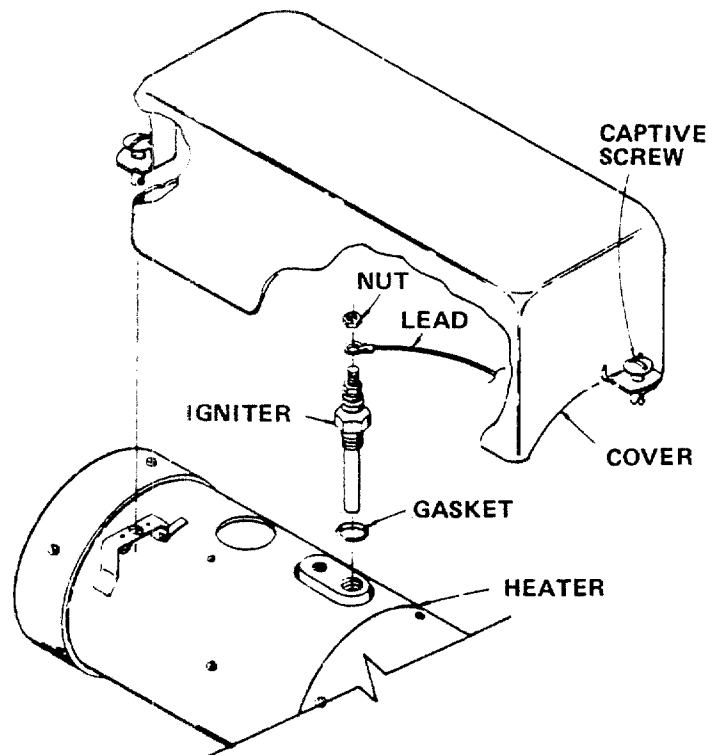

Figure 5-4. Fuel Burning Winterization Kit, Igniter Replacement
5-13. IGNITER ASSEMBLY. The following paragraphs provide inspection and replacement procedures for the heater igniter assembly (see figure 5-4).
b. Replace. Refer to figure 5-4 and proceed as follows:
(1) Release two captive screws to remove protective cover.
(2) Lift off cover, then remove nut and lead from igniter.
(3) Remove gasket.
(4) Install new gasket and igniter, then reinstall lead and securely tighten nut.
(5) Reinstall protective cover by tightening two captive screws.